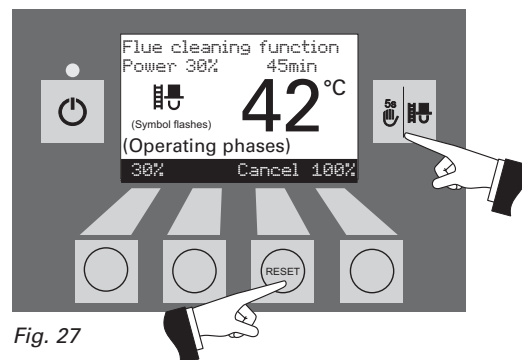

Fig. 27
- when the *Cancel* button is pressed – Fig. 27.